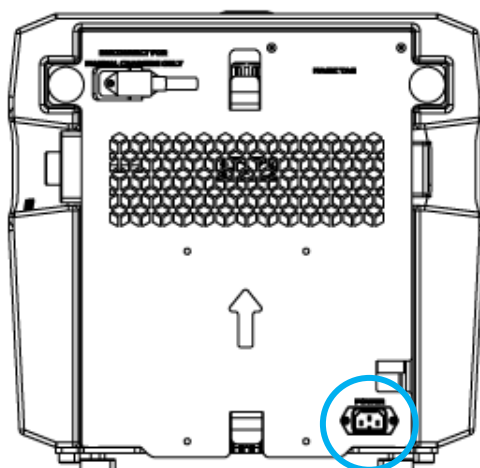

Fig. 1
1. Connect the power cable to the station power port (Fig. 1).